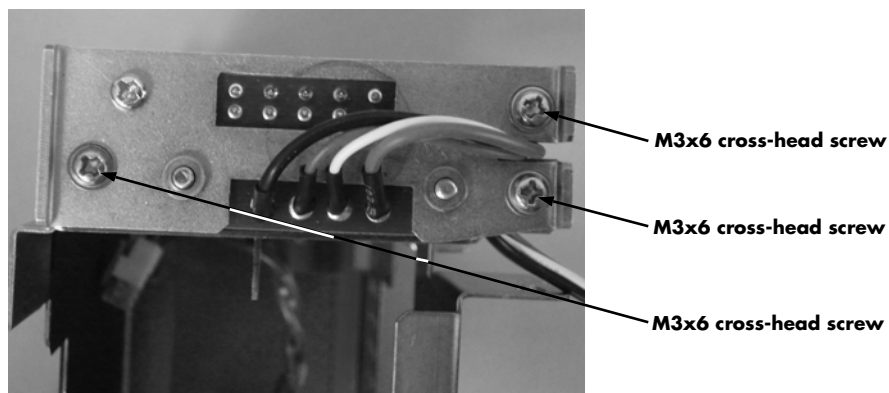

FIGURE 4-21 Remove three (3) M3x6 cross-head screws.
Remove the three (3) M3x6 cross-head screws (as shown in Figure 4-21).